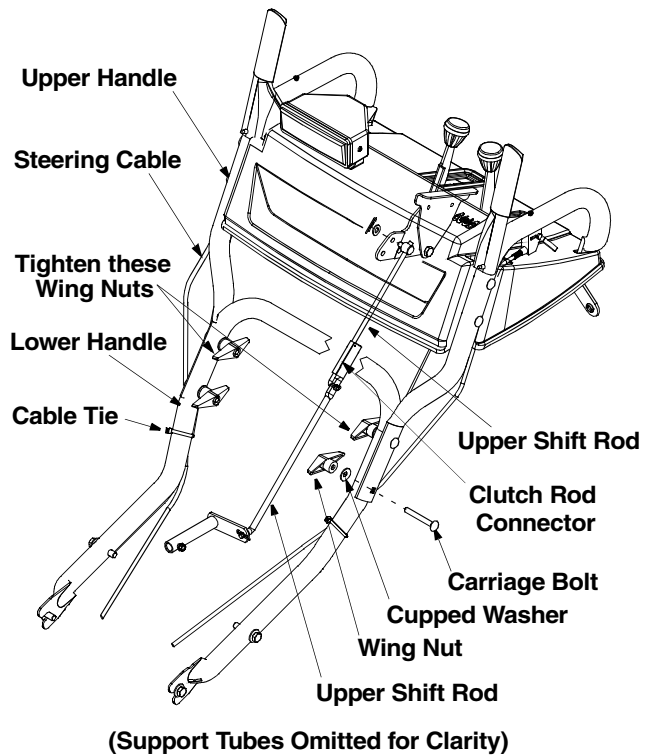

Figure 2
- Remove the **lower** plastic wing nut, cupped washer and carriage bolt from each side of the lower handle. Refer to Figure 2.
- Tighten the two wing nuts already in place on the upper holes and secure the handles firmly. Refer to Figure 2.
- Slide the shift rod connector down over the end of the lower shift rod as shown in Figure 2. Tap the connector until it **locks** on the lower shift rod.